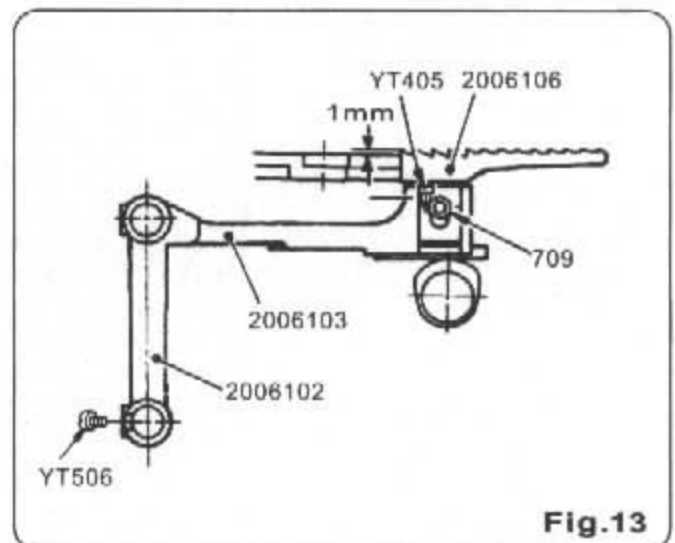

Fig. 13
The height of feed dog is correct when, at its highest point of travel, the rearmost teeth project above throat plate by 1mm as shown in (Fig. 13). This can be accomplished by removing feed dog (2006106), then adjusting screw (YT405) of feed bar (2006103) to obtain the required height. Fasten feed dog nut (709) after ensuring that feed dog is contacting screw (YT405). To adjust feed dog within throat plate (2006107D), ensuring uniform clearance between the rows of teeth and throat plate grooves, loosen screw (YT506) of feed rocker (2006102), and adjust feed rocker as necessary.